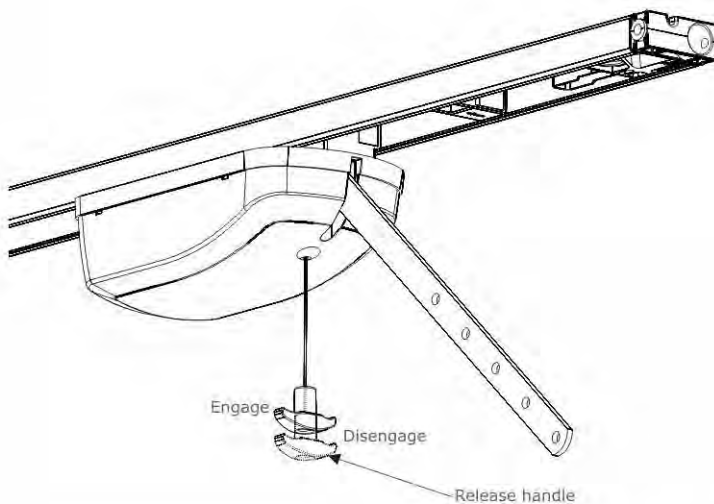

Fig 10
- With the Drive Unit disengaged (Fig.10) position the Drive Unit in either one of the following ways;
- TO DISENGAGE - pull down on the release handle (Fig.10) until a click is "felt" and then release the handle